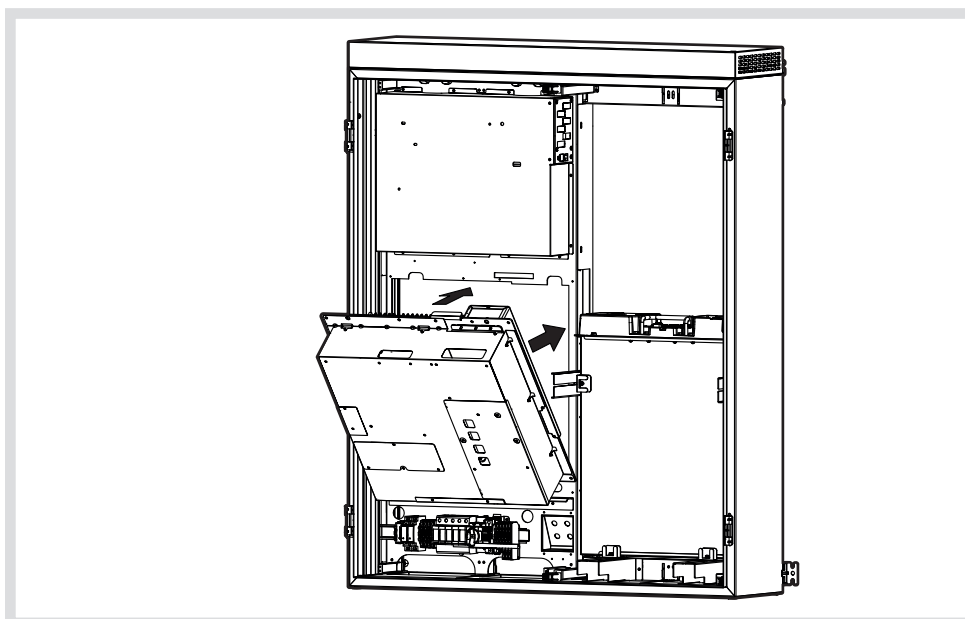

Figure 18: Insert the inverter
- Insert the bottom of the inverter into the mounting device above the main connection area (Figure 18).